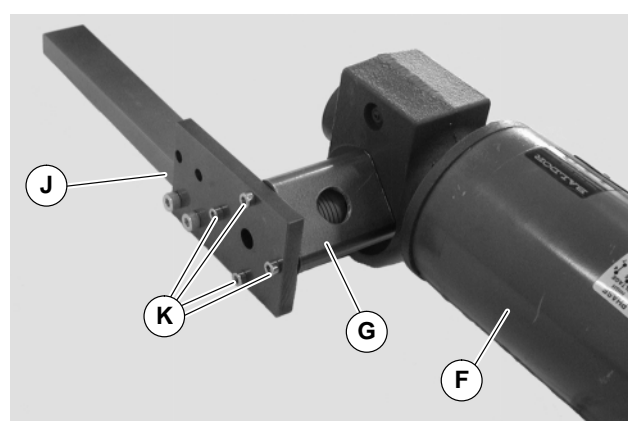

Figure 16
6. Attach guard tube (G of Figure 16) and gearmotor support assembly (J) to gearmotor assembly (F) with screws (K). Tighten screws (K) to 5.6 Nm.